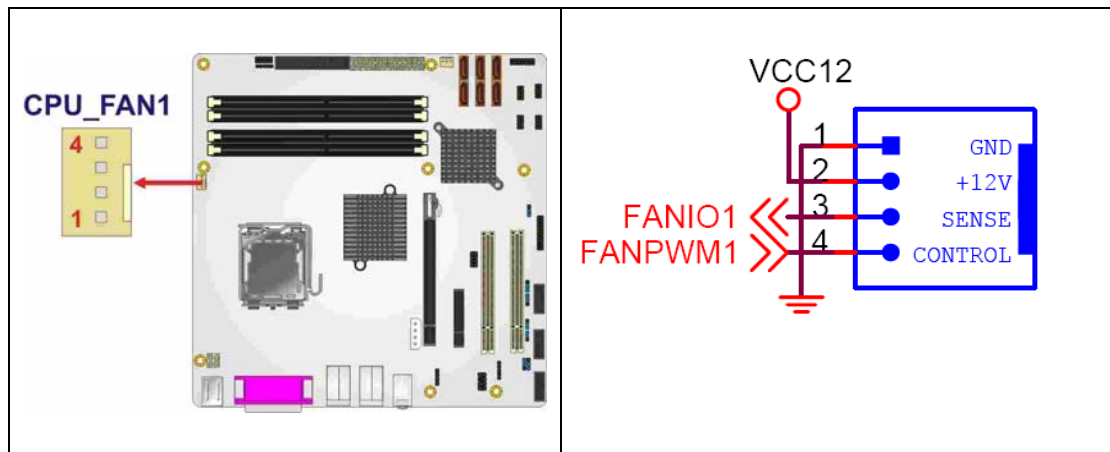

Figure 4-6: +12V Fan Connector Location
- CN Location:** See **Figure 4-6**